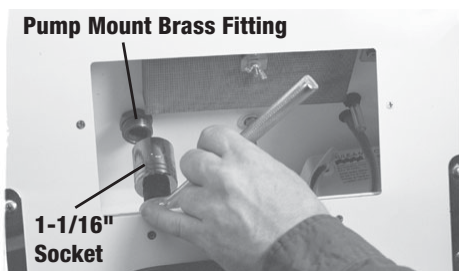

Figure 4
4. Using a 1 1/16" socket (optional accessory), remove the pump mount brass fitting (fig. 4).